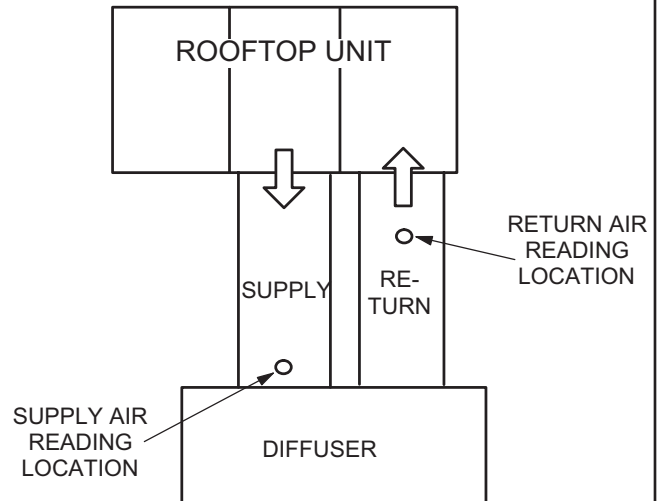

FIGURE 14
- 2 - With all access panels in place, measure static pressure external to unit (from supply to return). Blower performance data is based on static pressure taken in locations shown in FIGURE 14.
Flame rollout limit S47 is a SPST N.C. high temperature limit located just above the burner air intake opening in the burner enclosure. See figure 14. S47 is wired to the main control panel A55. When S47 senses flame rollout (indicating a blockage in the combustion air passages), the flame rollout limit trips, and the ignition control immediately closes the gas valve.